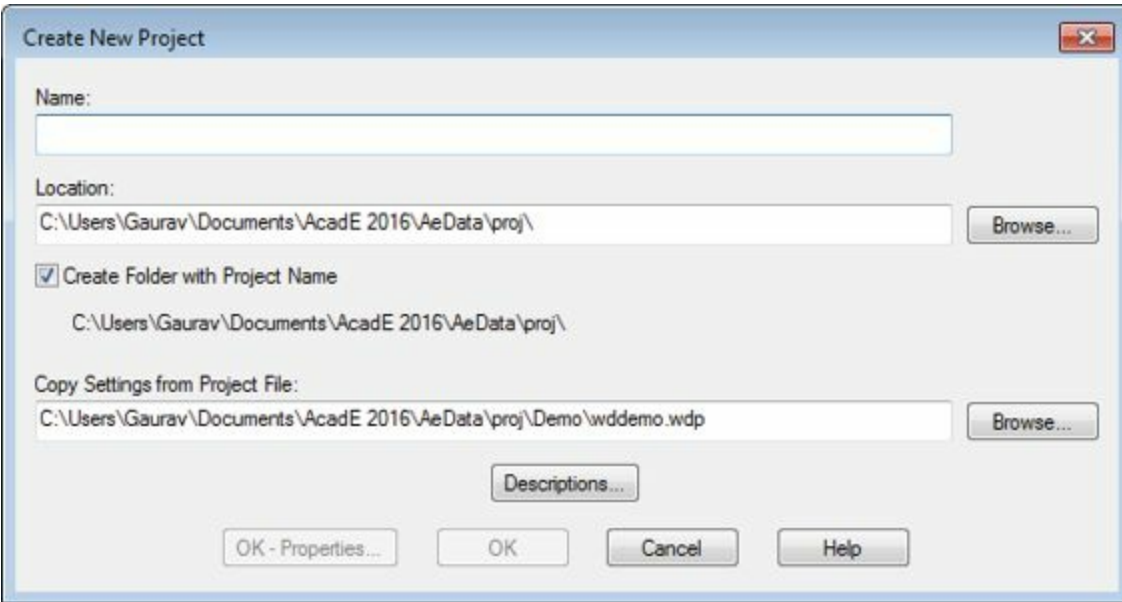

Figure-5. Create New Project dialog box
- Click on the **New Project** button  in the **Project Manager**. The **Create New Project** dialog box will be displayed; refer to Figure-5.